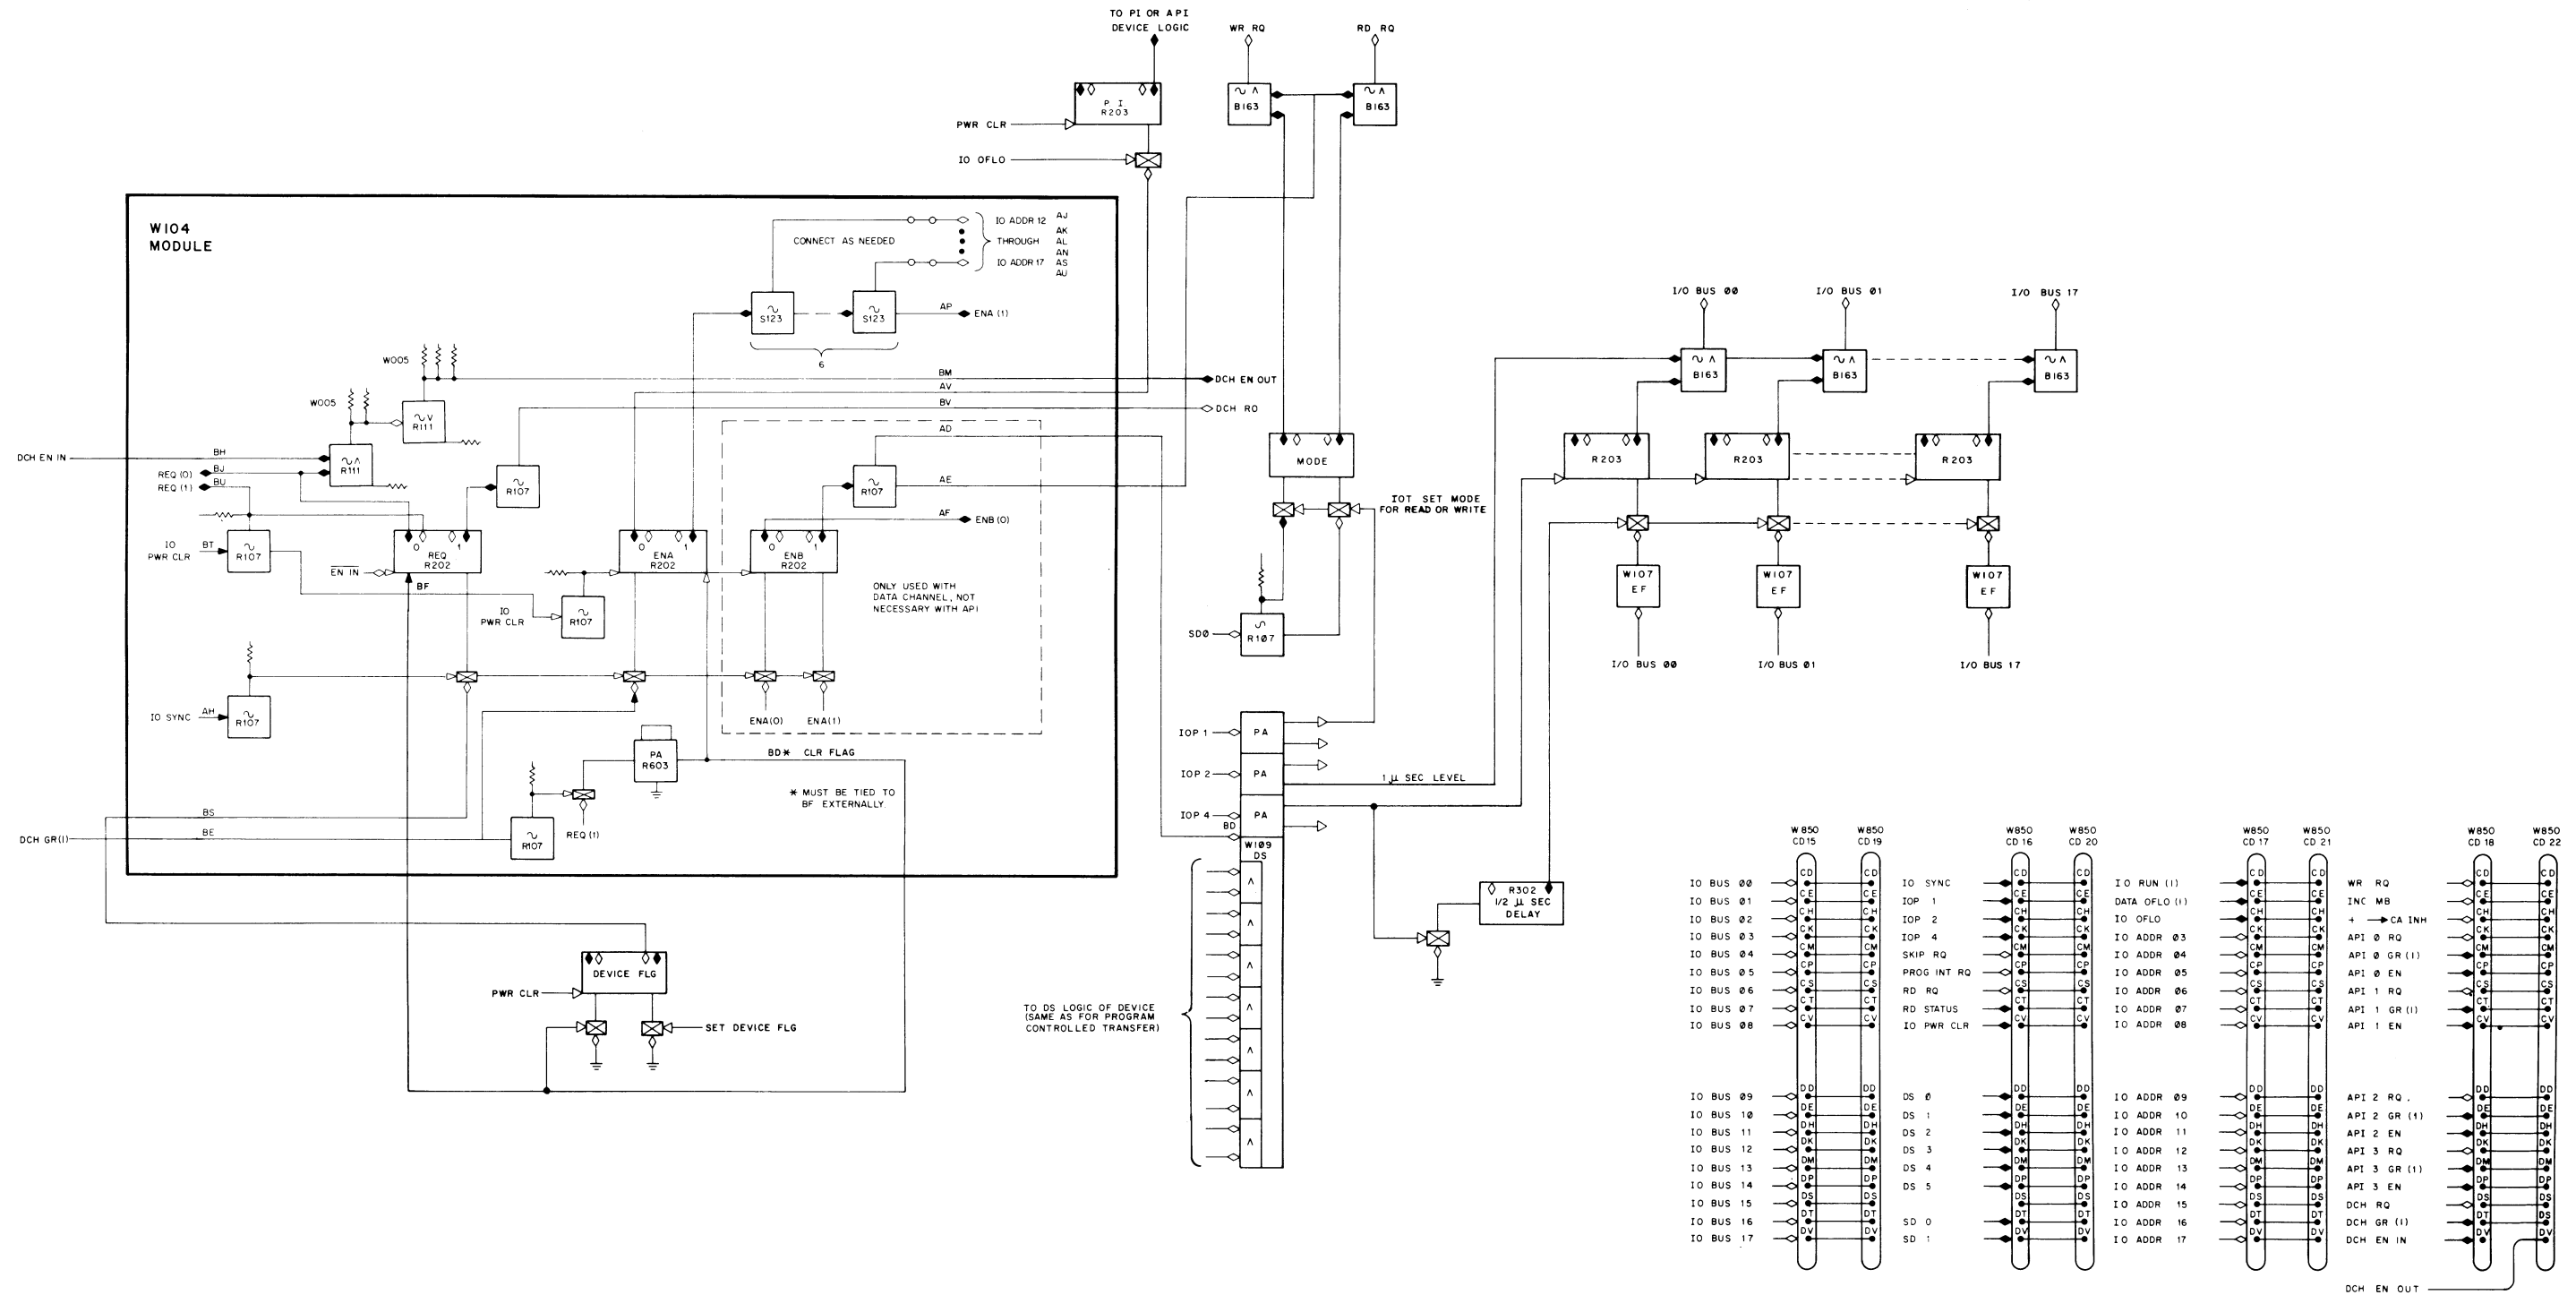

Figure 3-12 DCH Interface Logic for Reading and Writing
3.4.3.1 Operations Unique to Reading - If the read request (RD RQ) signal is present and the write request (WR RQ) signal is not present, the transfer is taken as an into-computer data transfer (refer to Figure 3-12). At the beginning of the second (current address) cycle, IOP2 is issued. At this time the device is expected to gate its data onto the I/O bus for subsequent read-in by the channel. At the end of the second cycle, the data is read into the AR register. The third cycle stores the data word in the memory. This ends the sequence and the channel relinquishes control to the processor.
3.4.3.2 Operations Unique to Writing - If the write request (WR RQ) signal is present and the read request signal is not present, the transfer is taken as an out-of-computer data transfer (refer to Figure 3-12). During the middle of the third (data) cycle, the channel places the requested data onto the I/O bus for subsequent read-in by the device. The data remains available until the middle of the fourth cycle. At the beginning of the fourth cycle, IOP4 is issued instructing the device to clear its buffer and to gate the data on the bus into its re-
The interface shown in Figure 3-12 can be used to either read or write from the computer into its data buffer. If the MODE flip-flop is set to enable the RD RQ gate, the computer will read the contents of the device register into the core address location CA+1. If MODE is set to enable the WR RQ gate, then the computer will write into the device data register the memory word contained in core memory location CA+1. The circuit operates as follows: